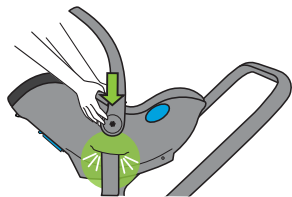

Figure 86
- Push down on each side of the Carrier to lock onto each adapter, as shown in **Figure 86**.